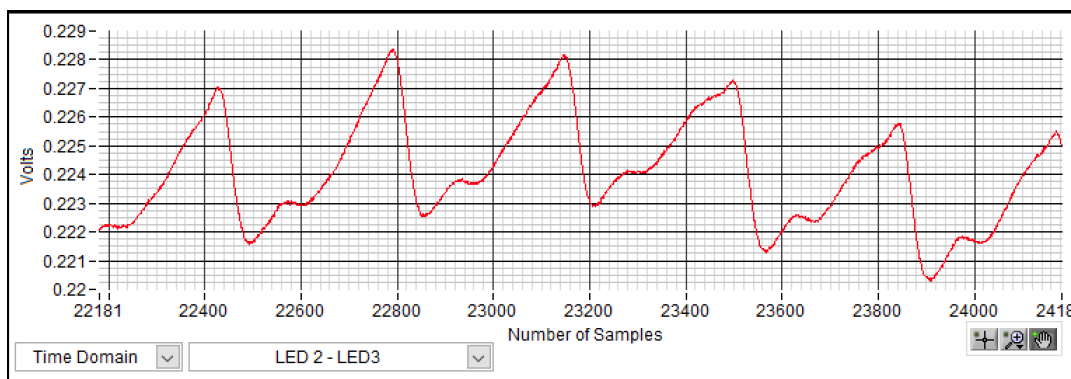
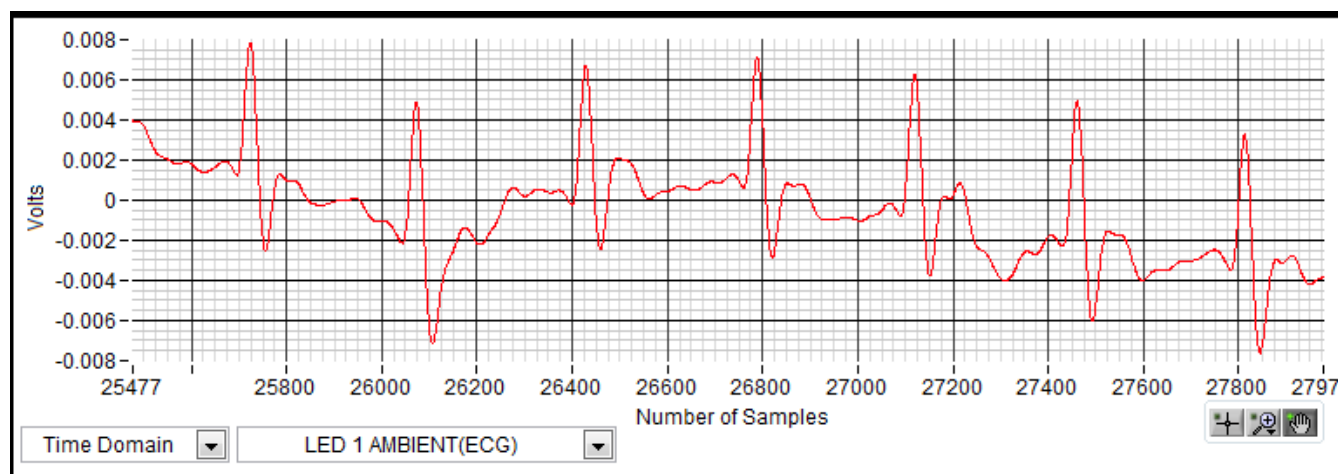

Figure 8. Sample PPG Waveform of Green LED Captured on the Wrist
Figure 9. Sample ECG Waveform
- (c) Click the **Capture** button to begin capturing data. Figure 8 and Figure 9 show a sample waveform.
NOTE: Figure 8 and Figure 9 are only for illustration. To get waveforms like this, some of the signal chain parameters (LED current, TIA Gain, timing registers) have to be tweaked. Also noise pickup from mains must be avoided.